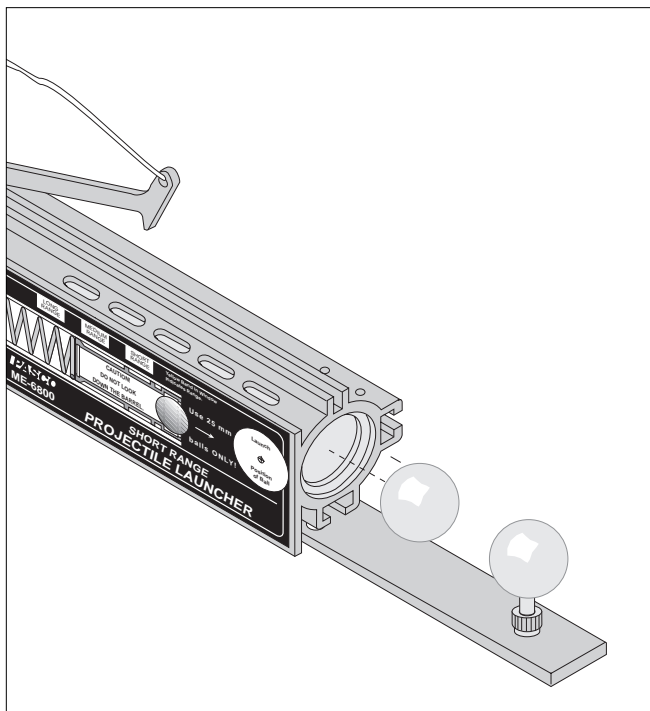

Figure 6.2: Photogate Bracket and Tee
- ① Clamp the Projectile Launcher to a sturdy table near one end of the table with the launcher aimed inward toward the table.
- ② Adjust the angle of the Projectile Launcher to zero degrees so the ball will be launched horizontally onto the table. Fire a test shot on the short range setting to make sure the ball lands on the table.
- ③ Cover the table with butcher paper. The paper must extend to the base of the launcher.
- ④ Mount collision attachment on the launcher. See Figure 6.2. Slide the attachment back along the launcher until the tee is about 3 cm in front of the muzzle.
- ⑤ Rotate the attachment to position the ball from side to side. The tee must be located so that neither ball rebounds into the launcher and so both balls land on the table. Tighten the screw to secure the collision attachment to the launcher.
- ⑥ Adjust the height of the tee so that the two balls are at the same level. This is necessary to ensure that the time of flight is the same for each ball. Fire a test shot and listen to determine if the two balls hit the table at the same time.
- ⑦ Place a piece of carbon paper at each of the three sites where the balls will land.